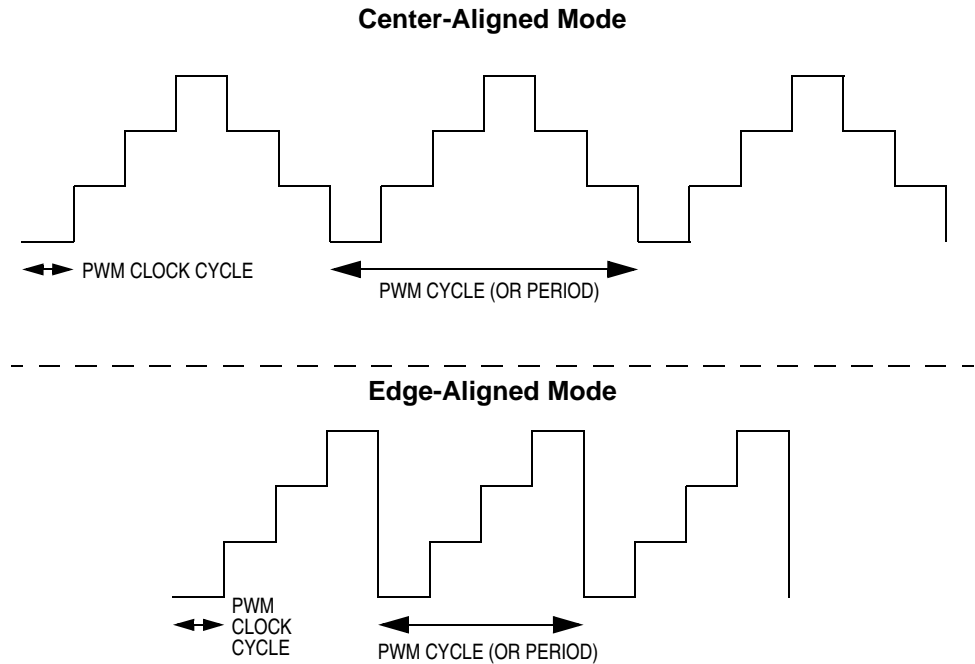

Figure 12-47. PWM Clock Cycle and PWM Cycle Definitions
PWM clock cycle (or period) — One tick of the PWM counter ($1/f_{OP}$ with no prescaler). See Figure 12-47.
- Center-aligned mode: The time it takes the PWM counter to count up and count down ($\text{modulus} * 2/f_{OP}$ assuming no prescaler). See Figure 12-47.
- Edge-aligned mode: The time it takes the PWM counter to count up ($\text{modulus}/f_{OP}$). See Figure 12-47.